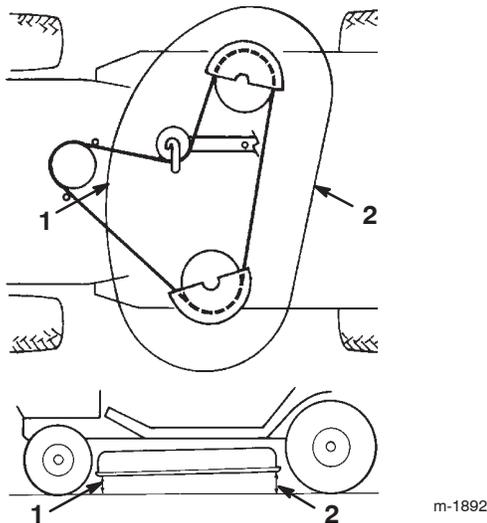

Figure 51
- Check the front-to-rear slope by measuring between the bottom of the mower (front center and rear center) and the flat surface (Fig. 51). If the front is not within a range of 1/8 to 3/8 in. (3 to 10 mm) lower than the rear, adjust it.